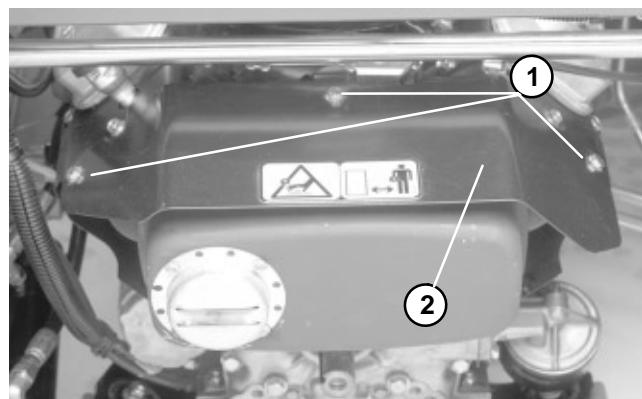

Figure 23
- Access muffler from the rear of the machine. Remove muffler shield from the engine by removing three cap screws and lock washers securing it to the engine (Fig. 23 and 24).
- Secure muffler shield to the engine with three cap screws and lock washers (Fig. 23 and 24).